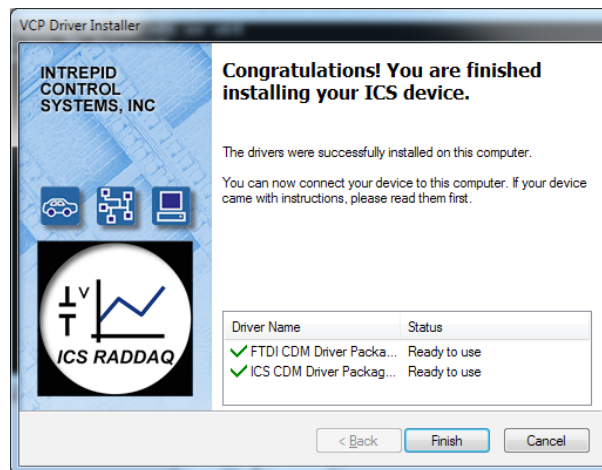

Figure 30: VCP Driver Installation Complete.
9. **Install VCP Drivers:** Click **Next >** to begin installing the first set of drivers. When completed, a message will appear like the one in Figure 30. Click **Finish**.